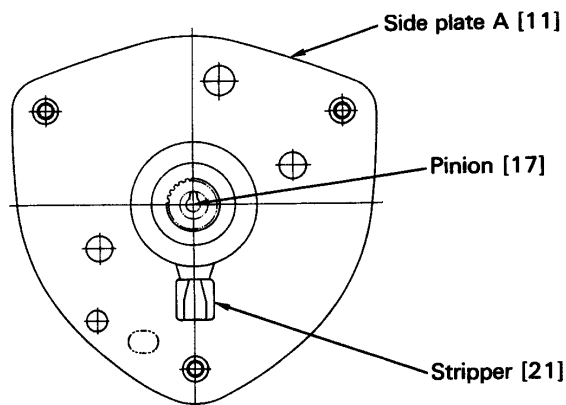

Figure 6-2 Side Plate / Load Sheave Assembly
- 3) Insert the load sheave [14] with a part of spline side (pinion gear side) up into the ball bearing [15]. The stripper [21] must be inserted as well. See Figure 6-2.